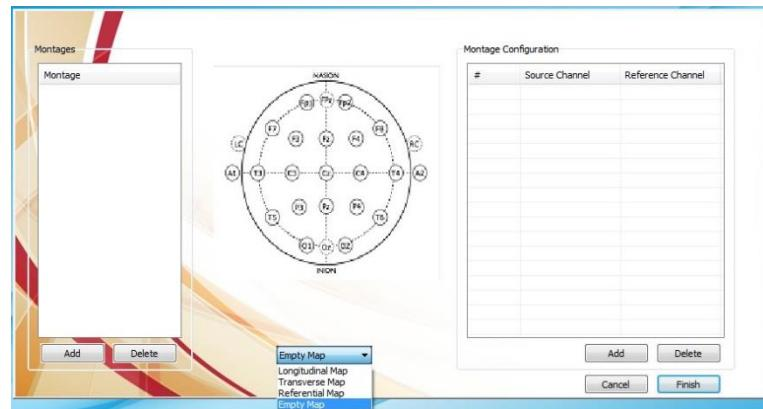

Figure 68: Montages
- Options popup window will appear (figure 68)